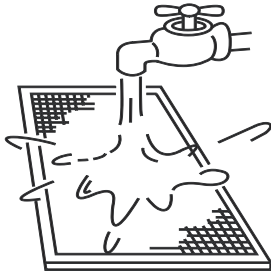

Figure 12.4
b. The air intake side should face down when using clean water. (Refer to Figure 12.4)